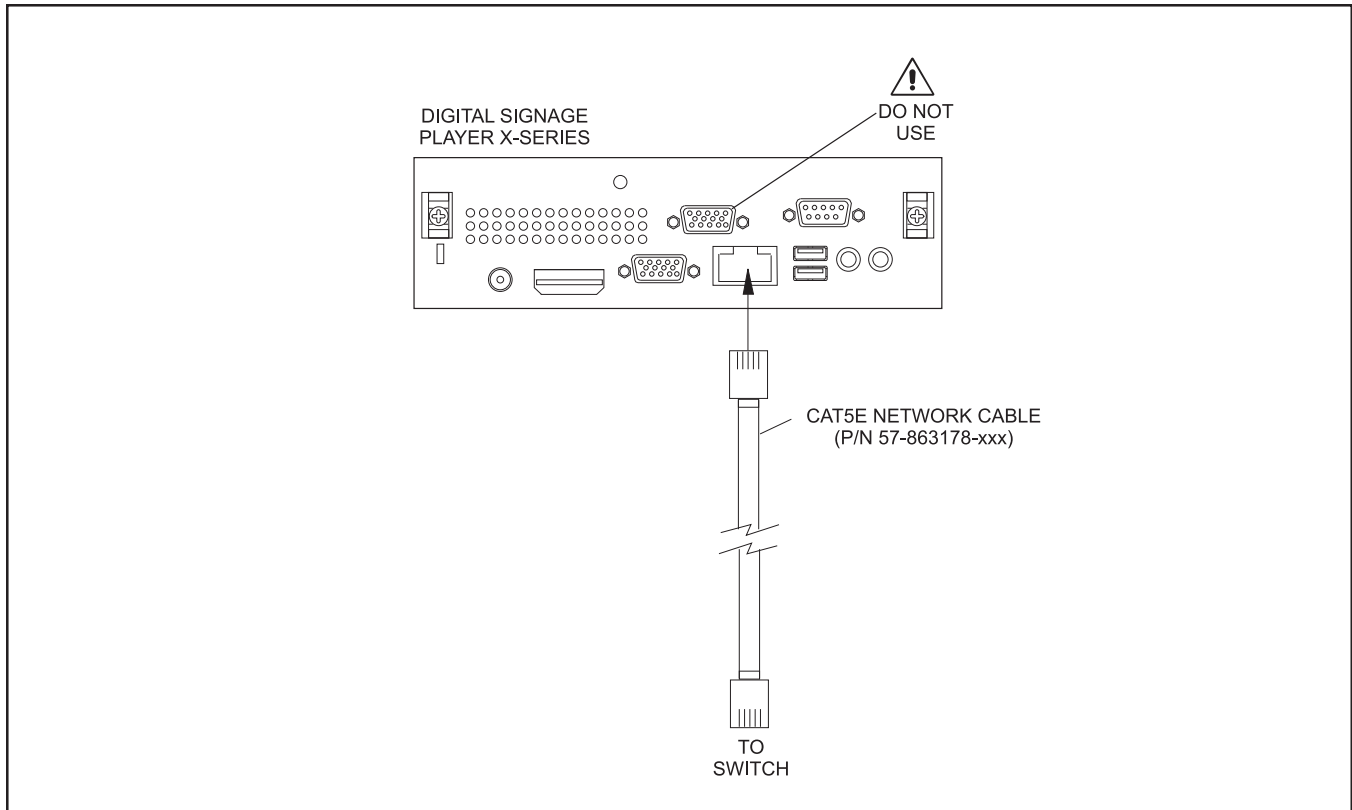

Figure 1. X- Series Digital Signage Player
1. Connect the Digital Signage Player to the computer network using a Cat5e network cable (P/N 57-863178-xxx). The player must communicate with the Vector Plus server. Refer to *Figures 1 & 2*.